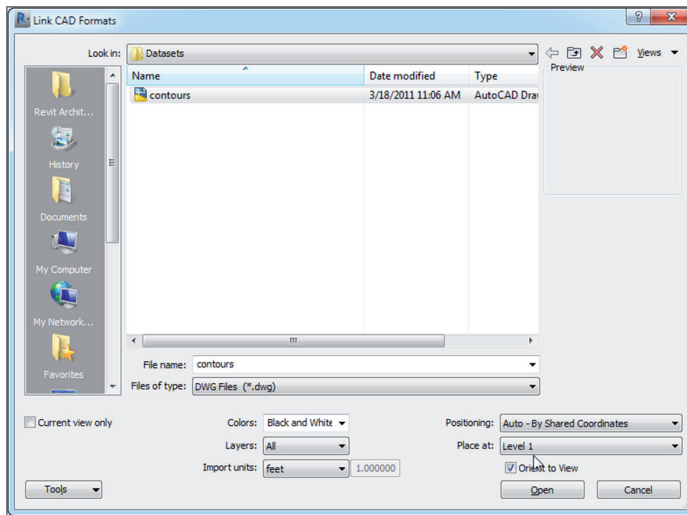

FIGURE BC3.31: Changing the link settings
6. Make sure Orient To View is selected. (See Figure BC3.31.)
5. Click Save. Doing so adds a new position in the site DWG file. You're now coordinated with your site people. (See Figure BC3.31.)